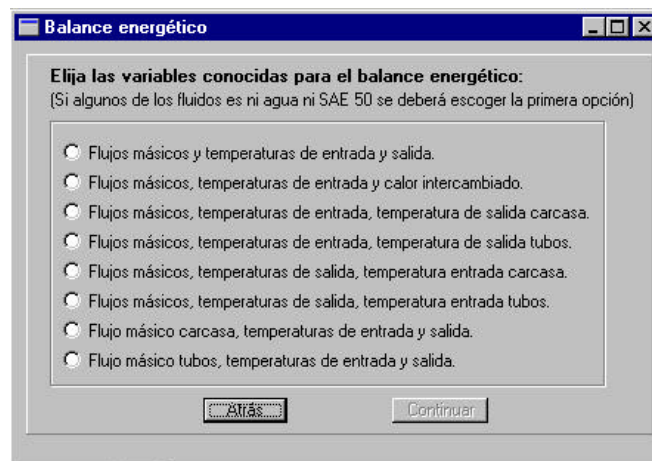

Figura 4.3: TFbalance
4.2.2. TFbalance (figura 4.3).